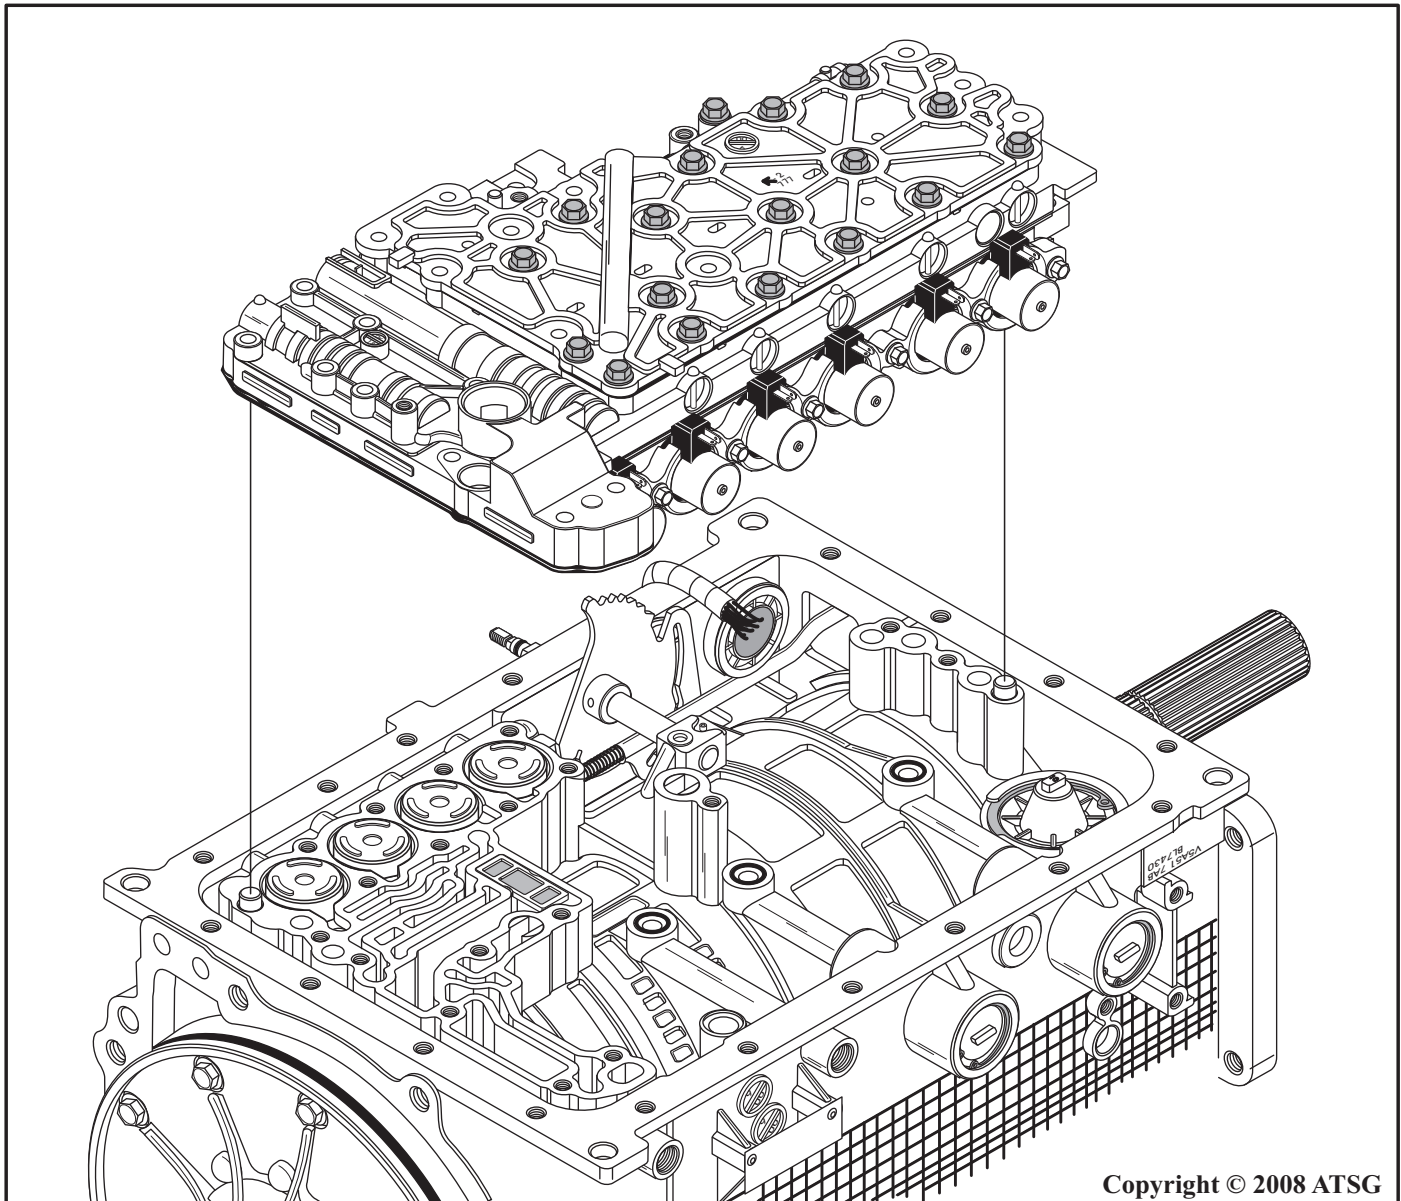

Figure 222
82. Lay the internal wire harness over the case pan rail, as shown in Figure 222.
84. Then install valve body over the dowels in case and gently onto the "O" ring seals, as shown in Figure 222.